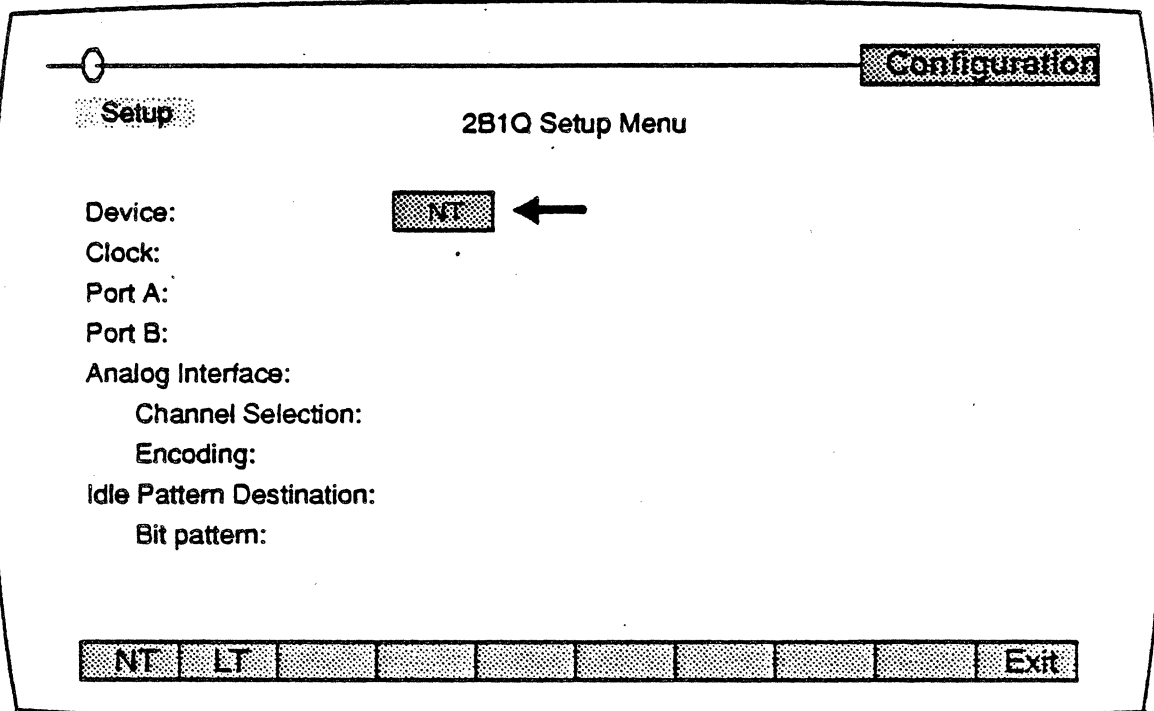

Figure 1.4: The 2B1Q Configuration Setup Menu
3. Press **F7 PhysicI** to display the 2B1Q Setup Menu (see page 20-10, Figure 1.4). This menu enables you to configure the U Interface and is described in detail on page 20-10. The *Device* setting that you enter here may be overridden by the selection you make later in the Configuration menu of the 2B1Q Simulation screen. See page 20-16 for further details.